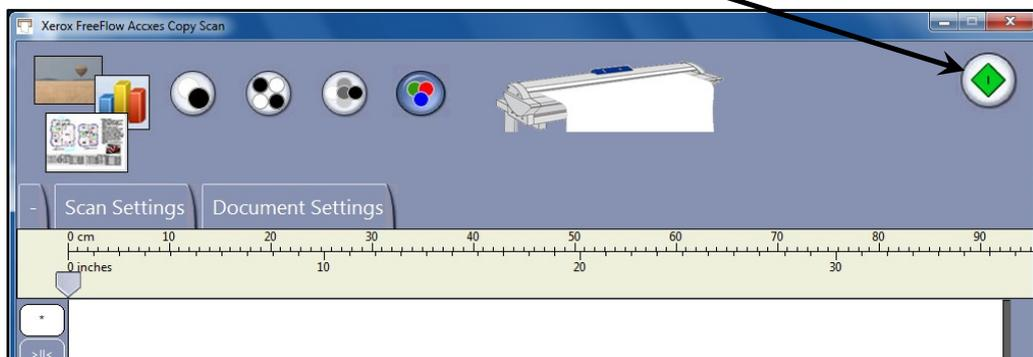

Fig 1-16
5. The Accxes Copy Scan Interface will appear (Fig 1-16). By default it will be configured for Colour and 300dpi. Resolution can be changed if desired but 300dpi is the recommended setting for the calibration.